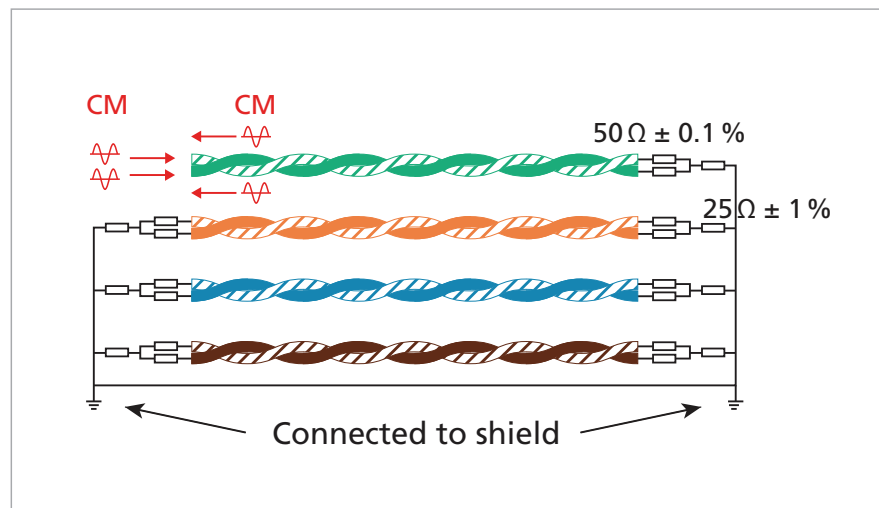

Figure 10.
The measurement is made by injecting a common mode signal (CM) into one twisted pair, then measuring the CM signal returned on that same pair, see figure 10. The smaller the CM signal returned, the better the CMRL.